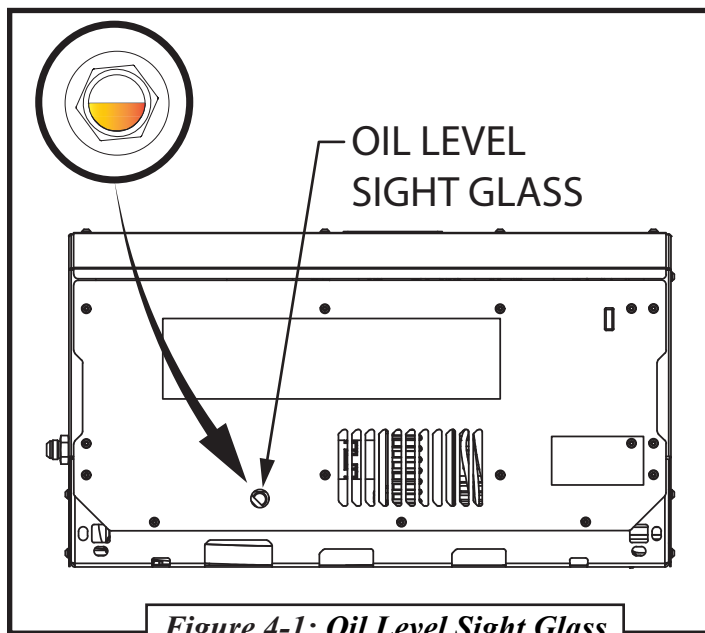

Figure 4-1: Oil Level Sight Glass
1. Before starting always check for proper oil level before use. Unit should be sitting on a flat, level surface for accurate oil level readings. (The oil level sight glass can be viewed without removing the canopy for convenience.) *Please refer to Figure 4-1.*
NOTE: Before starting, be sure the oil is filled to the proper level. (See Figure 4-1.) Check for any sign of oil leaks. If leaks are present always fix/repair leaks prior to proceeding.